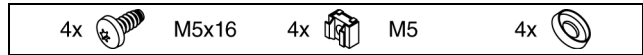

Fig. 1: Provided accessories
- Provided accessories (fig. 1)